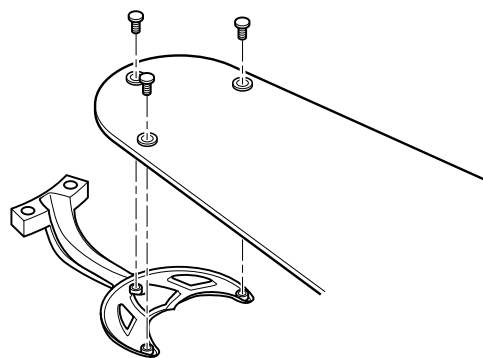
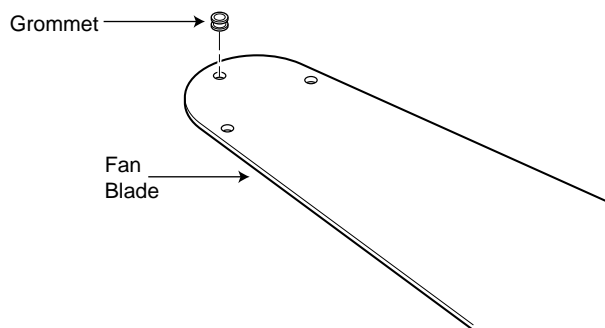

FIGURE 11
FIGURE 12
- A. Attach wood blades to blade brackets using (3) screws for each blade. See Figure 11. If your blades have large holes you must first insert the rubber grommets into the holes. See Figure 12.